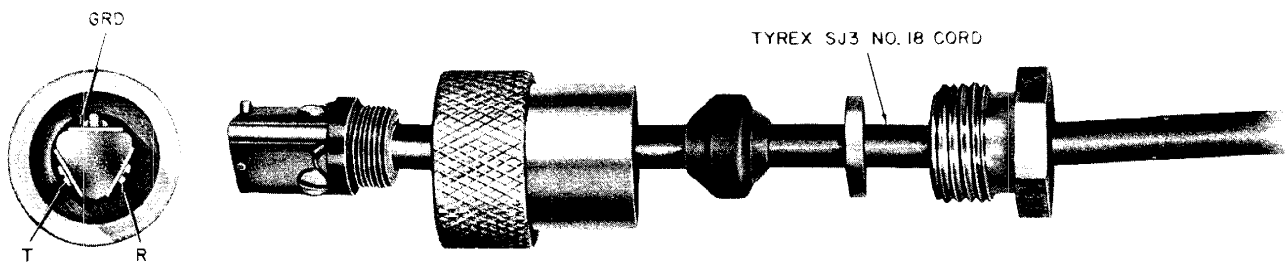

Fig. 7—KS-8419 Plug
2.08 The KS-8419 plug (Fig. 7) is a 3-contact, brass plug intended for connecting telephone sets installed on boats, trains, or auto trailers to outdoor jacks of PBX or CO lines. This plug is intended for use with KS-8420 or KS-8421 jacks.
- (1) Plug components are assembled to TYREX SJ3 No. 18 cord or equivalent (Fig. 7).
- (2) In TYREX SJ3 No. 18 cord or equivalent, the black conductor should be used for the ring (negative) side of the line. The white conductor should be used for tip (positive) side of the line. The green conductor is the ground conductor.
- (3) One terminal of the KS-8419 plug has a small lug protruding from the contact. This lug and the notched terminal on KS-8420 and KS-8421 jacks are provided to ensure that the plug is inserted in one position only.
- (4) When ground is necessary for service, the green conductor should be terminated on the notched terminal.